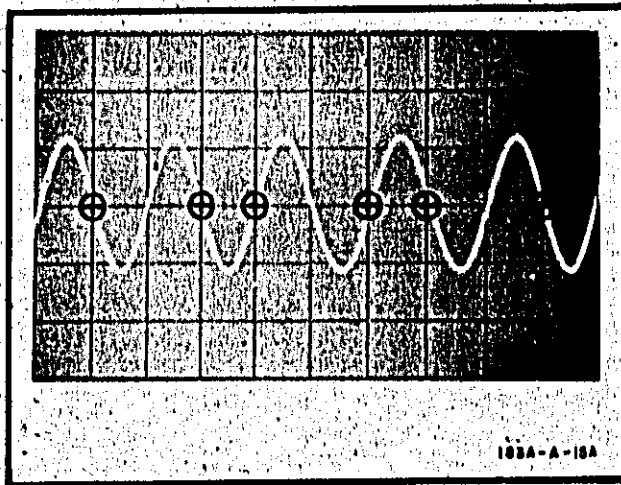

Figure 5-2. Horizontal Linearity Waveform
m. Obtain at least 2 divisions of vertical display and carefully adjust horizontal and vertical position of waveform to appear as shown in Figure 5-2.